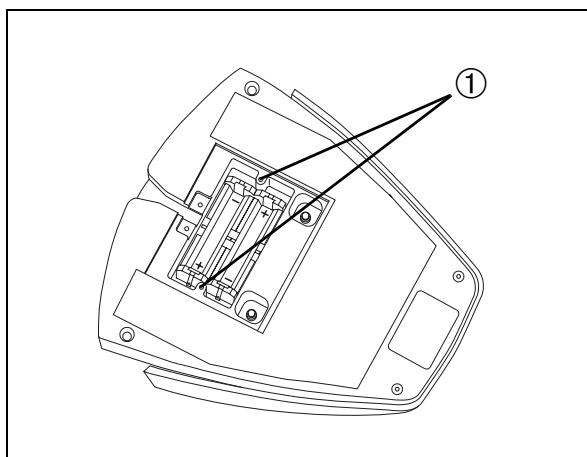
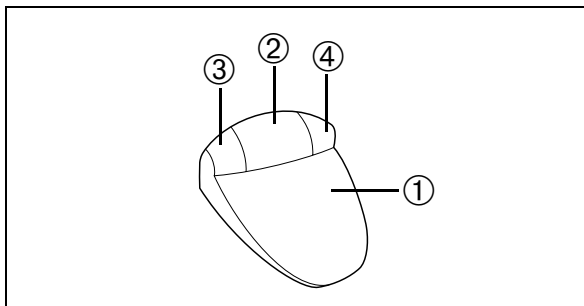

Fig. 14
Fig. 15
The batteries required by the F9 are located in the battery compartment underneath the foot control (Fig. 14). If the batteries are not sufficiently charged, an acoustic signal (three beeps) is output from the motorized chair's supply unit each time the pedal is released ① (Fig. 15). The batteries must then be exchanged without delay (within one or two days). Failure to do so may lead to malfunctions in the unit. You can change the batteries by removing the two countersunk screws ① (Fig. 14) and simply taking off the lid of the battery compartment. Insert the batteries the right way round, then screw the lid back on.
Important: Immediately after changing the batteries, press the button ① (Fig. 15) on the control unit as far as it will go for around 2 seconds.
- Pressing the pedal ① (Fig. 15):
- Briefly tapping the button ② (Fig. 15):
- Holding down the button ② (Fig. 15):
- Briefly tapping the button ③ (Fig. 15):
- Holding down the button ③ (Fig. 15):
- Briefly tapping the button ④ (Fig. 15):
- Holding down the button ④ (Fig. 15):